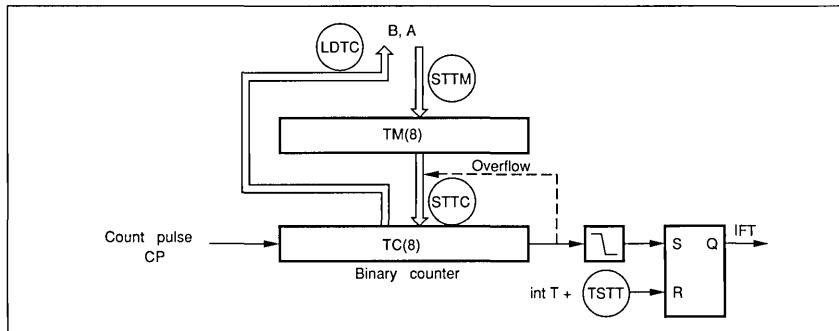
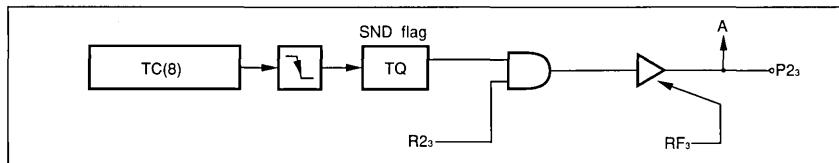

Fig. 5 Timer Counter
Fig. 6 SND Signal
The count register is an 8-bit incremental binary counter. It is incremented by one at the falling edge of its count pulse (CP) input. If the count register overflows, the timer interrupt request flag IFT is set, and the contents of the modulo register (TM) are loaded into the count register (See Fig. 5). The count pulse CP can be selected from divider signals  $f_{IN}$ ,  $f_0$  and the system clock, by using the mode register RD. If the count register (TC) overflows, the SND flag reverses its status at the falling edge of the TC. A sound signal can be obtained at the TC output by putting P2 in output mode and sending a "1" to pin P23 (See Fig. 6).